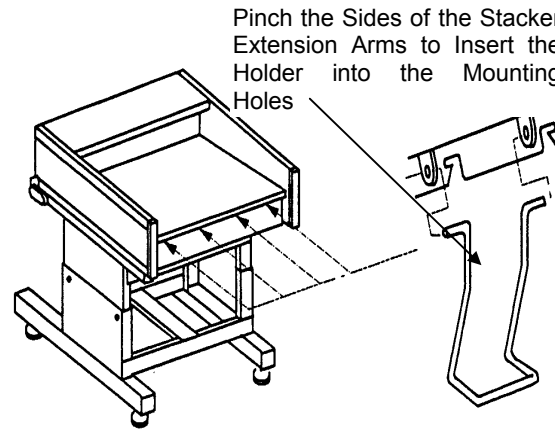

Figure 5 Installing the Paper Holder Arms to the Stacker
6. (Figure 5) Install the four Stacker Extension Arms to the back of the Stacker.